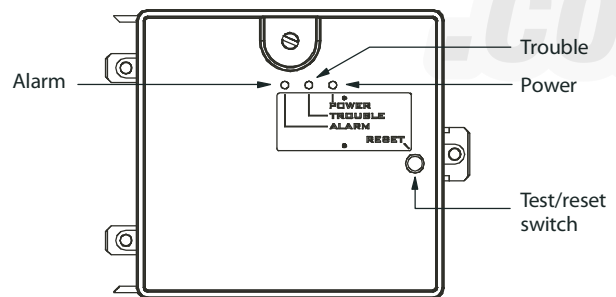

Fig. 45 - Controller Assembly
- The contacts on the controller's supervisory relay switch positions. (See Fig. 45.)